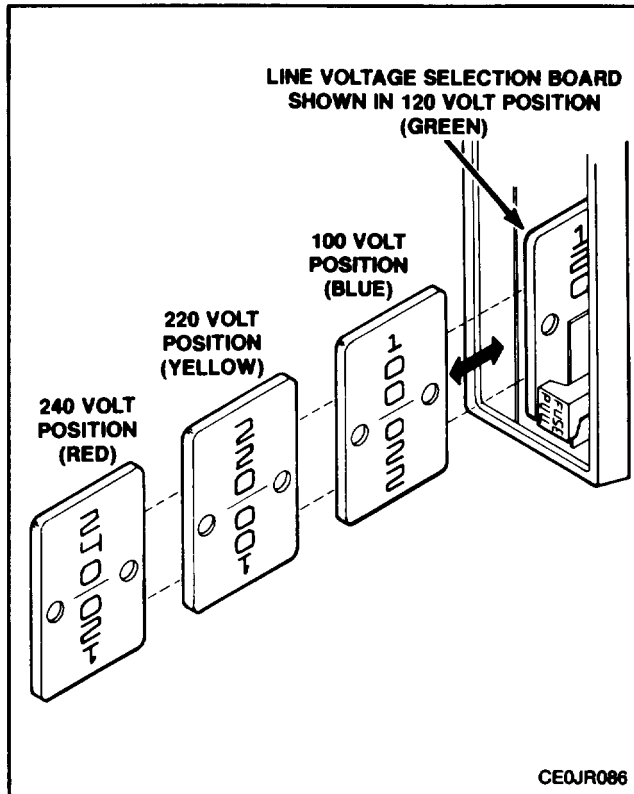

Fig. 5-2. Line voltage range selection.
Line Voltage Range Check/Selection. Refer to Fig. 5-2 with the following procedure. The line filter assembly containing the line voltage selector board is located on the TS-4084/G rear panel.
3. Referring to Fig. 5-2 and Table 5-1, determine the correct position for the desired line voltage range.